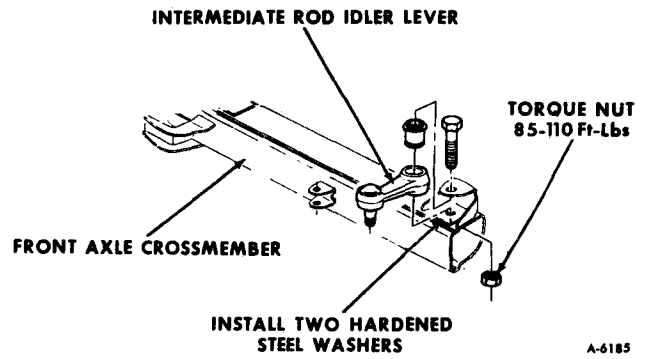

Figure 3—Installing Washer Under Idler Pivot
*If entry "G" is .125" or greater, add two hardened steel washers under the idler lever pivot as shown in figure 3. Otherwise, the intermediate rod parallelism is acceptable.